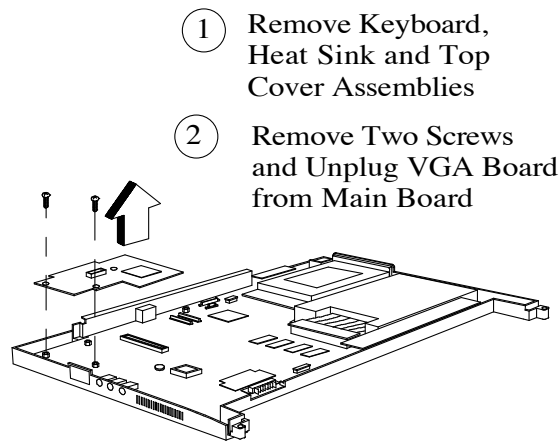

Figure 6-16 Removing/Replacing the VGA Video Board Assembly
5. Remove two screws and unplug the VGA Video Board from the Main Board as shown in Figure 6-16.